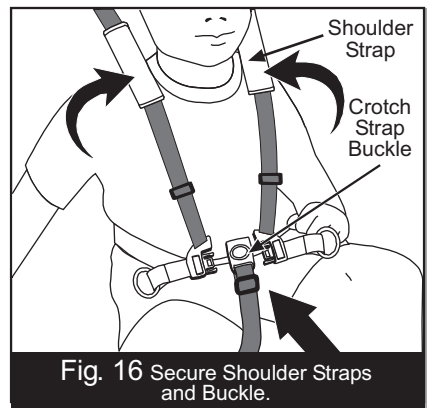

Fig. 16 Secure Shoulder Straps and Buckle.
- Place child in seat. Slip one shoulder strap over each shoulder. Position crotch strap between legs (Fig. 16).